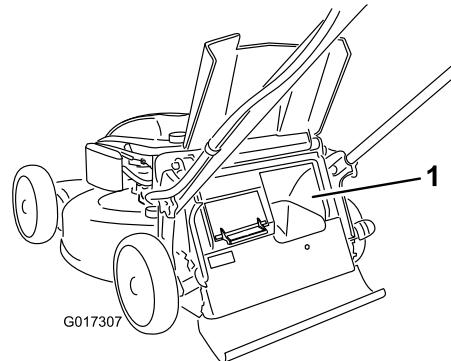

Figure 22
**Important:** For proper operation, remove any grass clippings and debris from the bag-on-demand door and the surrounding opening (Figure 22) before you move the bag-on-demand lever from one position to another.